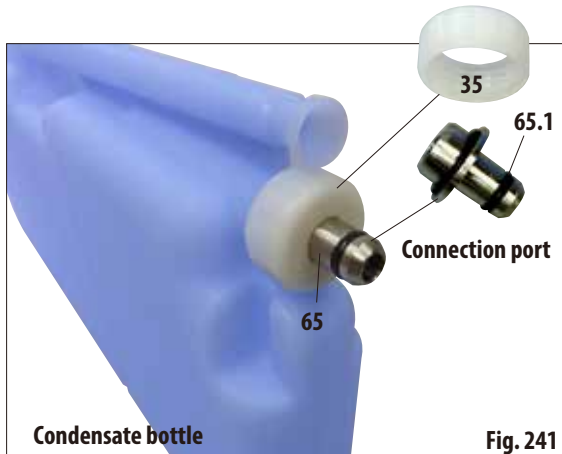

Fig. 241
- To ensure easy removal of the reagent and condensate bottles, lubricate the O-ring seals (65.1, Fig. 241 and 242) on the plug-in nozzles with the O-ring lubricant supplied.
**The connection manifolds must NEVER be mixed up. The connection manifold with the delivery hose must ALWAYS be inserted in the white system bottle. Tighten the retaining ring (35) so that the bottle is perfectly sealed.**